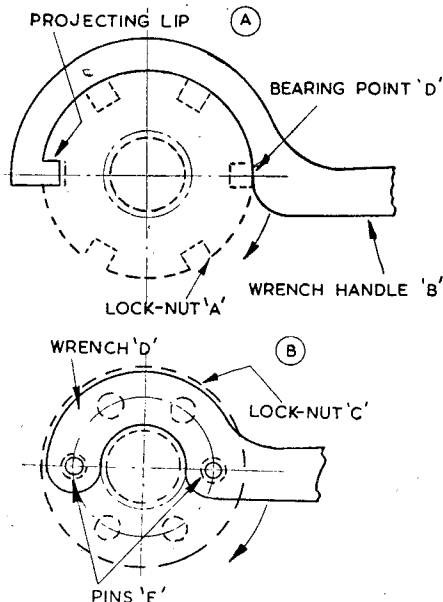

Fig. 2
The type of pin-wrench (*B*), Fig. 2, is employed with lock-nuts having a series of drilled holes in one side face.
With wrench (*A*), Fig. 2, the size of the projecting lip will largely determine the applicability
The type of pin wrench (B), Fig. 2, is even more limited in application, because it can only
aforementioned limitations surrounding the use of wrenches of the kind shown at Fig. 2. This adjustable wrench consists of a length of rectangular section cast-steel, radiused each end, and smoothly finished at the sides to form the wrench handle A. This is left perfectly straight, as shown.